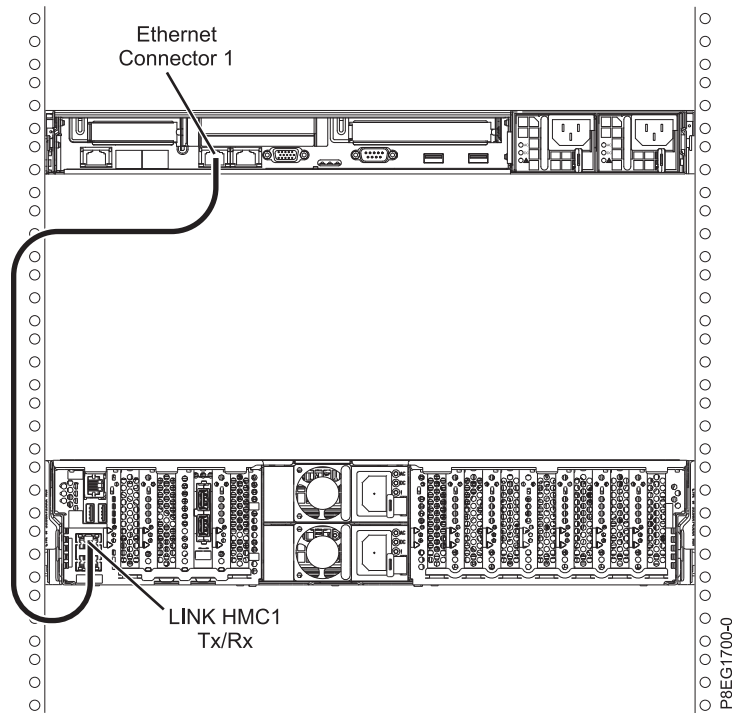

Figure 17. Attaching the HMC to the managed system
1. If you want to directly attach your HMC to the managed system, connect **Ethernet Connector 1** on the HMC to the **HMC1** port on the managed system. See Figure 17.